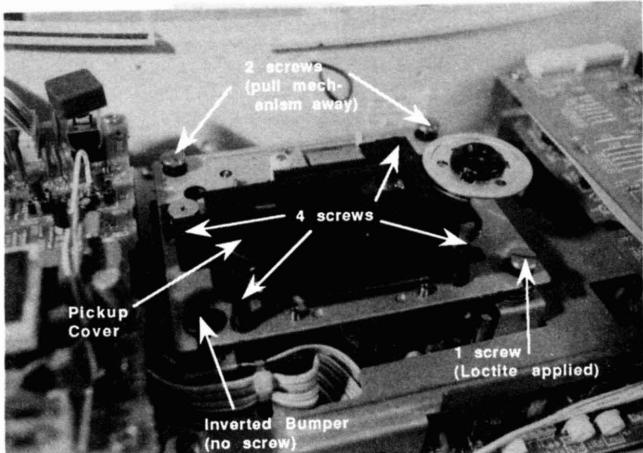

Figure 6
18. CD Mechanism Removal (Figures 6 and 7)
A. Remove 1 screw. Refer to note above. (Figure 6).
B. Pull the mechanism slowly away from 2 screws. Exercise care when sliding the mechanism out. These screws are delicate. (Figure 6).
19. CD Mechanism Replacement (Figures 6 and 7)
D. Remove the 4 screws which secure the black pickup cover. Re-install the cover on the new CD mechanism (Figure 6).
E. Remove the 2 rubber bumpers from the old mechanism and re-install on the new mechanism. One bumper is **inverted** (Figure 6).
20. CD Mechanism Installation (Figure 6)
- G.** Slide the mechanism into place under the 2 intact screws (Figure 6).
- H.** Apply **Loctite 290** to the threads of the 1 remaining screw. After waiting an appropriate period (see **Loctite** application instructions for duration), re-install the screw (Figure 6).